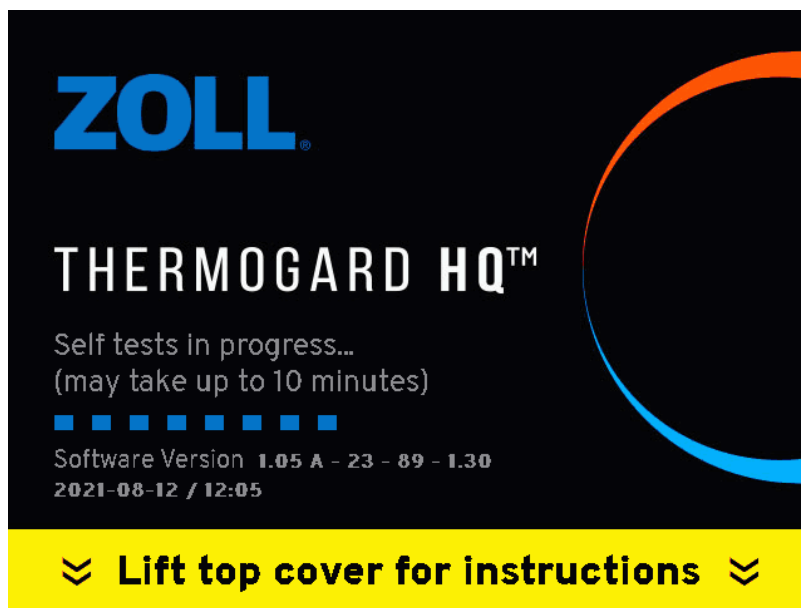

Figure 4.23. Self-Test screen
Note. The software version shown in Figure 4.23 is shown for reference only; the current product may use a different software version.
14. If the console has not yet finished its self tests, the Self-Test screen is displayed (Figure 4.23).